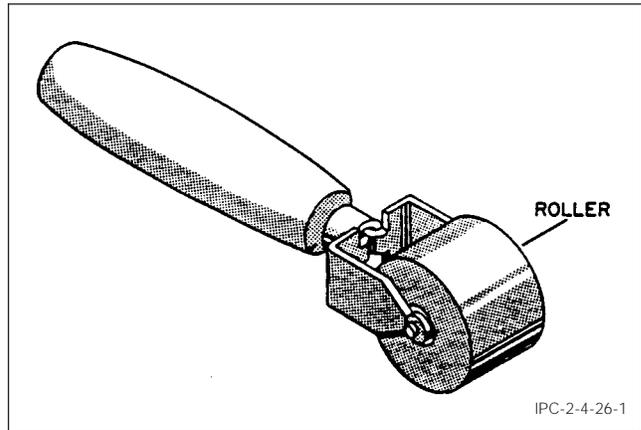
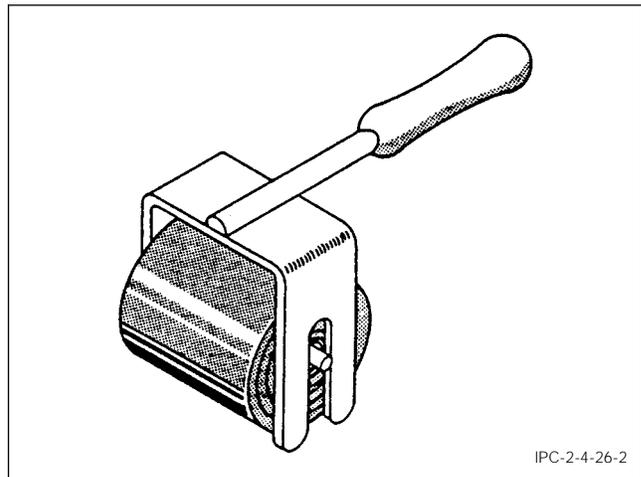

Figure 1 Paper Roller
Figure 2 Uniform Pressure Roller
**4.2** A wooden wallpaper seam roller (see Figure 1 and Figure 2). The type in Figure 1 can be purchased in most hardware shops, while the second roller is described in ASTM-D100.